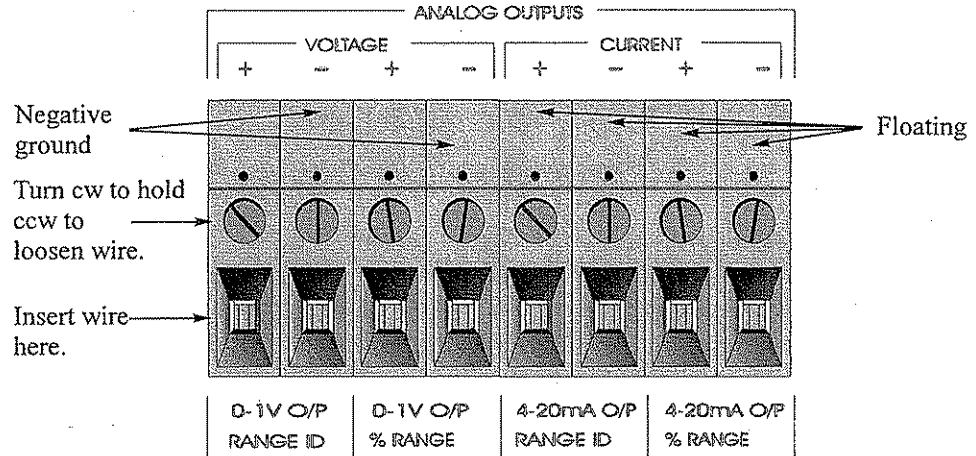

Figure 3-5: Analog Output Connections
**Analog Outputs:** There are eight DC output signal connectors on the ANALOG OUTPUTS terminal block. There are two connectors per output with the polarity noted. See Figure 3-5.